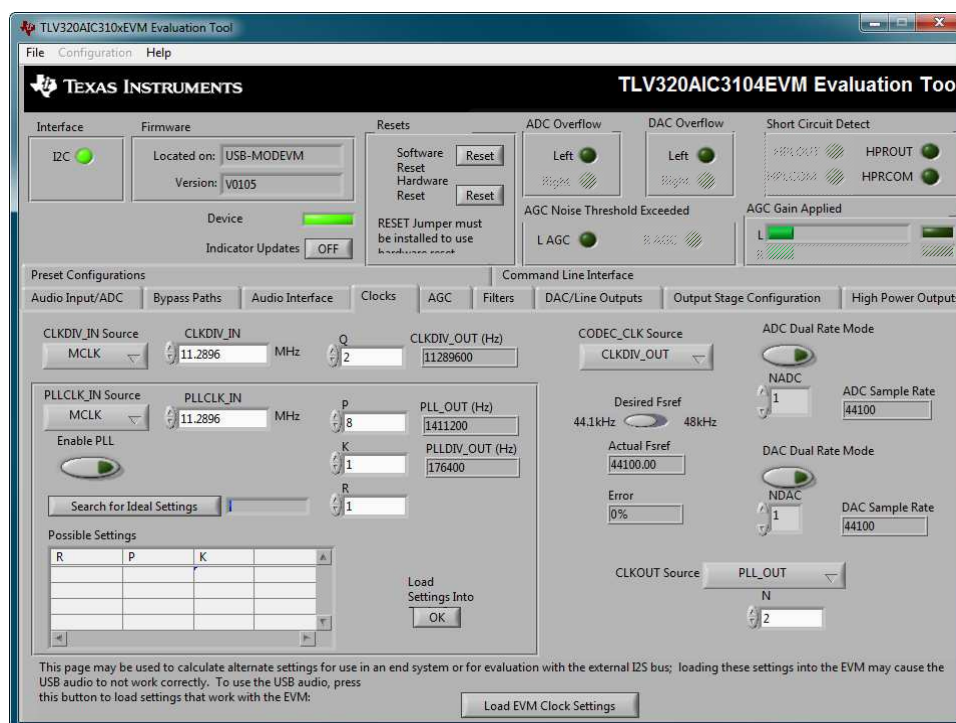

Figure 12. Clocks Tab
For use with the PC software and the USB-MODEVM, the clock settings must be set a certain way. If the settings are changed from the default settings which allow operation from the USB-MODEVM clock reference, the EVM settings can be restored automatically by pushing the **Load EVMS Clock Settings** button at the bottom of this tab. Note that changing any of the clock settings from the values loaded when this button is pushed may result in the EVM not working properly with the PC software or USB interface. If an external audio bus is used (audio not driven over the USB bus), then settings may be changed to any valid combination. The **Clocks** tab is shown in Figure 12.
3. Push the **Search for Ideal Settings** button. The software will start searching for ideal combinations of *P*, *K*, and *R* which achieve the desired *Fsref*. The possible settings for these parameters are displayed in the spreadsheet-like table illustrated in Figure 12, labeled *Possible Settings*.